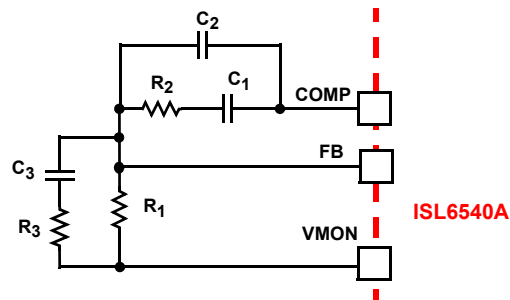
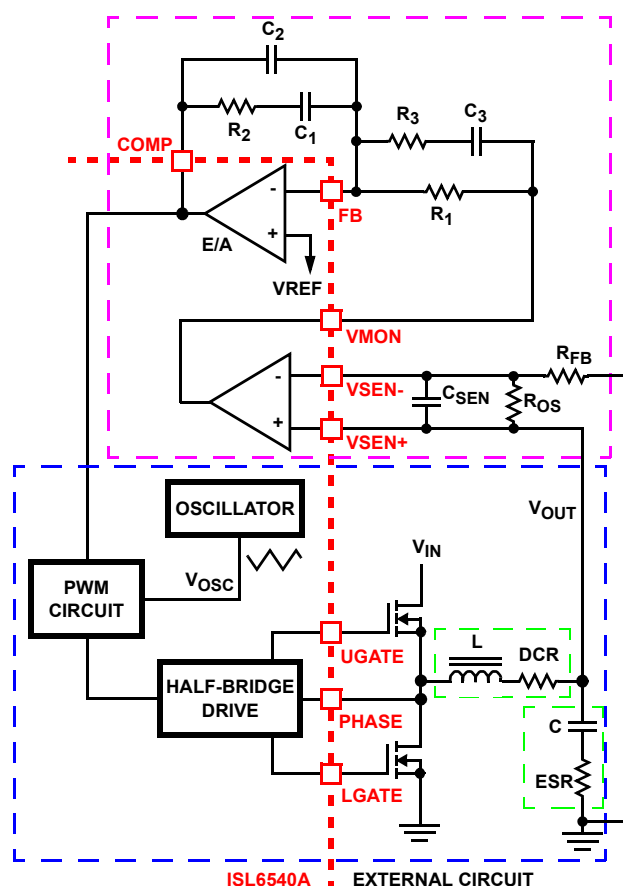

FIGURE 7. COMPENSATION CONFIGURATION FOR ISL6540A WHEN USING DIFFERENTIAL REMOTE SENSE
FIGURE 9. VOLTAGE-MODE BUCK CONVERTER COMPENSATION DESIGN
The ISL6540A single-phase converter is a voltage-mode controller. This section highlights the design considerations for a voltage-mode controller requiring external compensation. To address a broad range of applications, a type-3 feedback network is recommended (see Figure 7).
Figure 9 highlights the voltage-mode control loop for a synchronous-rectified buck converter, when using an internal differential remote sense amplifier. The output voltage (V_{OUT}) is regulated to the reference voltage, V_{REF} , level. The error amplifier output (COMP pin voltage) is compared with the oscillator (OSC) triangle wave to provide a pulse-width modulated wave with an amplitude of V_{IN} at the PHASE node. The PWM wave is smoothed by the output filter (L and C). The output filter capacitor bank's equivalent series resistance is represented by the series resistor ESR.
frequency (F_0 ; typically 0.1 to 0.3 of F_{SW}) and adequate phase margin (better than 45°). Phase margin is the difference between the closed loop phase at F_{0dB} and 180° . The equations that follow relate the compensation network's poles, zeros and gain to the components (R_1 , R_2 , R_3 , C_1 , C_2 , and C_3) in Figures 7 and 9. Use the following guidelines for locating the poles and zeros of the compensation network:
1. Select a value for R_1 (1k Ω to 10k Ω , typically). Calculate value for R_2 for desired converter bandwidth (F_0). If setting the output voltage to be equal to the reference set voltage as shown in Figure 7, the design procedure can be followed as presented. However, when setting the output voltage via a resistor divider placed at the input of the differential amplifier (as shown in Figure 9), in order to compensate for the attenuation introduced by the resistor divider, the below obtained R_2 value needs be multiplied by a factor of $(R_{OS}+R_{FB})/R_{OS}$. The remainder of the calculations remain unchanged, as long as the compensated R_2 value is used.
A small capacitor, C_{SEN} in Figure 9, can be added to filter out noise, typically C_{SEN} is chosen so the corresponding time constant does not reduce the overall phase margin of the design, typically this is 2x to 10x switching frequency of the regulator. As the ISL6540A supports 100% duty cycle, d_{MAX} equals 1. The ISL6540A also uses feedforward compensation, as such V_{OSC} is equal to 0.16 multiplied by the voltage at the VFF pin. When tying VFF to V_{IN} , the Equation 12 simplifies to: